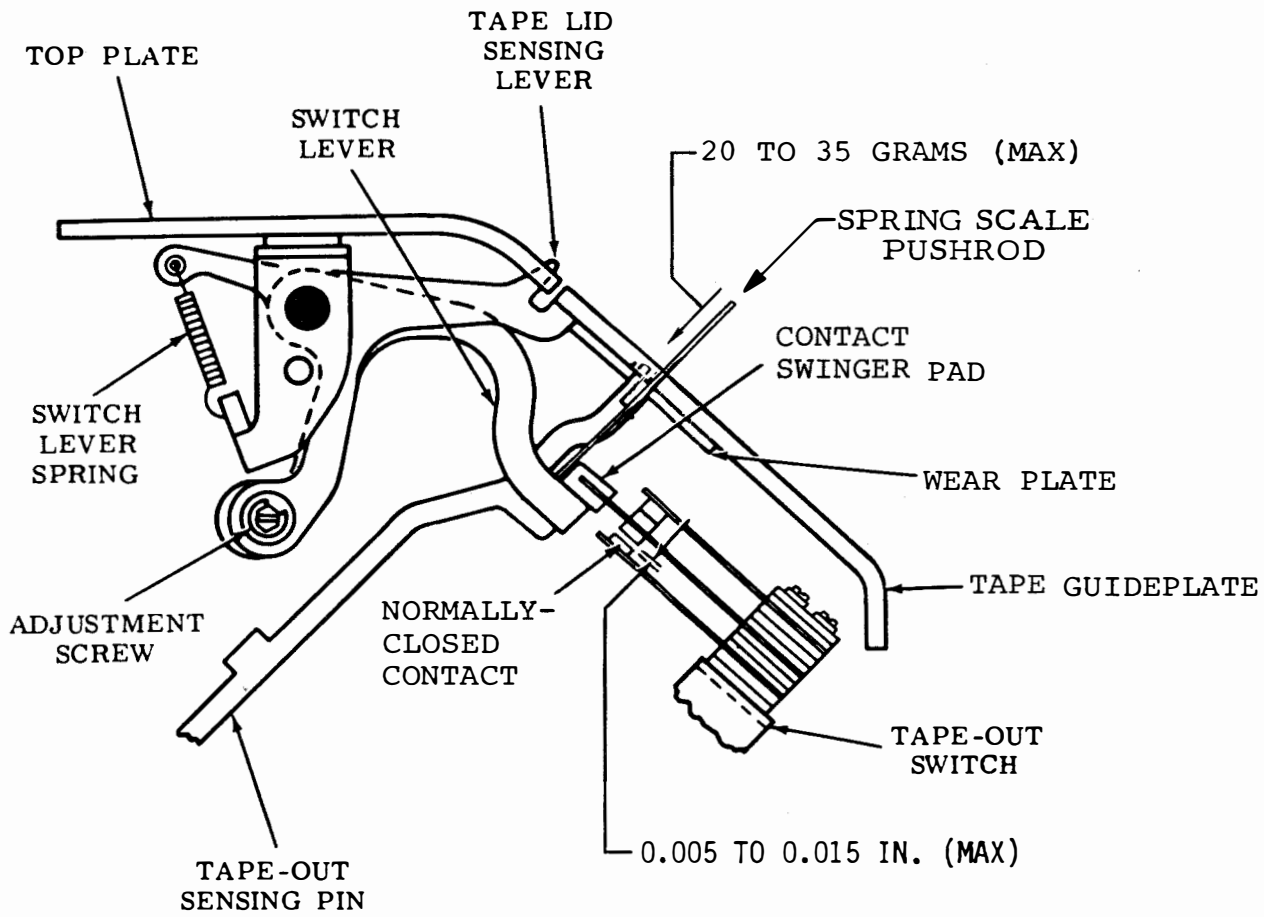

Figure 6-519. Switch Lever Spring and Switch Lever, Front View
(1) Switch Lever Spring. Adjust as follows:
- (a) Refer to Figure 6-519.
(2) Switch Lever. Adjust as follows: